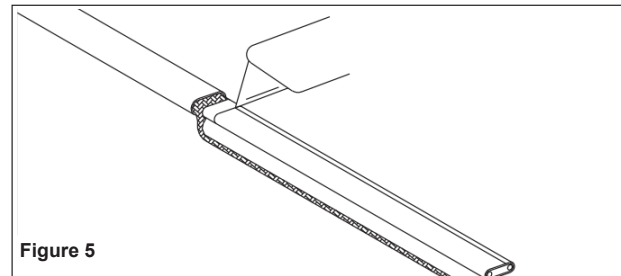

Figure 5
5. Score the inner insulation 6 inches from the end. Lightly cut the inner jacket up the center to end of heating cable and remove the inner jacket from the cable (Figure 5).